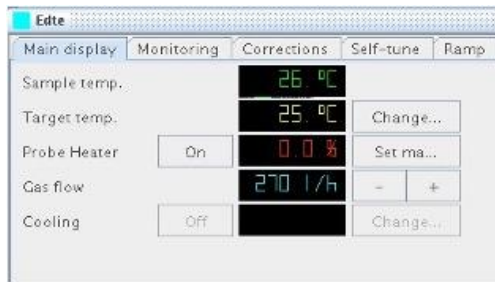

Figure 2. The main display of the edte window
5. Type edte at the command line to open the temperature control window. Figure 2 shows the main display tab of this window.